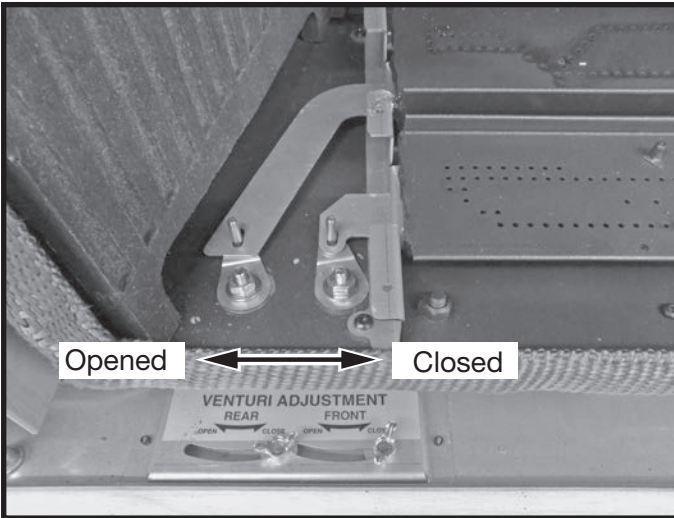

Figure 46: Tofino venturi adjustments.
3. With the fireplace turned on, use the adjustments (Figure 46) to adjust for flame appearance.